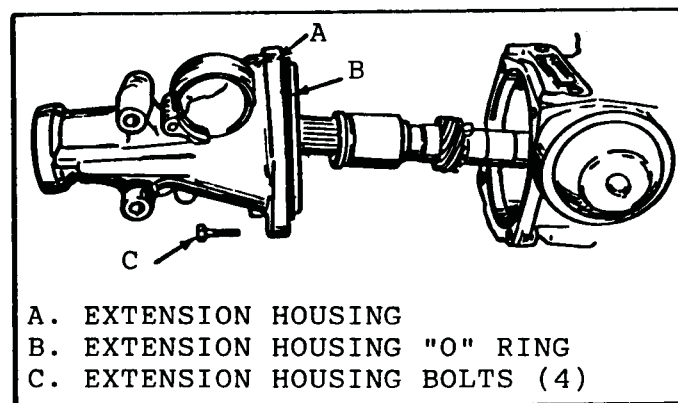

Figure 125
4. Install output shaft sleeve on the output shaft. Do not push the sleeve past the machined surface on the output shaft (See Figure 125).